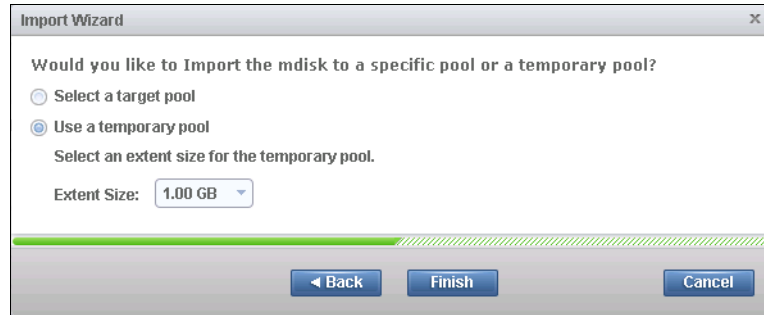

Figure 7-38 Import Wizard, select target storage pool
2. Choose to import the volume into the existing storage pool or use a temporary pool for migration (Figure 7-38 on page 205). If you choose to migrate to a temporary pool, select the extent size characteristics of the storage pool. Select the extent size and click **Finish**.